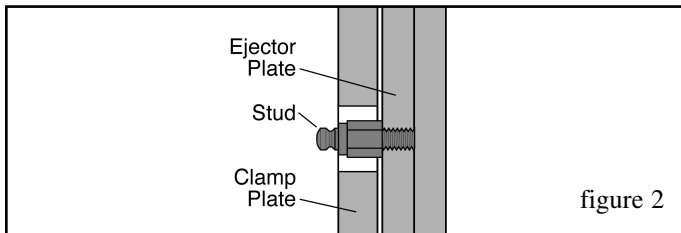

figure 2
1. Install studs into the mold ejector plate. See figure 2. Shoulder should be flush with the back face of the mold clamp plate. If the press has a non-adjustable ejector home position, it may be necessary to insert washers under the stud. Use a thread-locking compound where threaded parts connect to prevent movement during use.